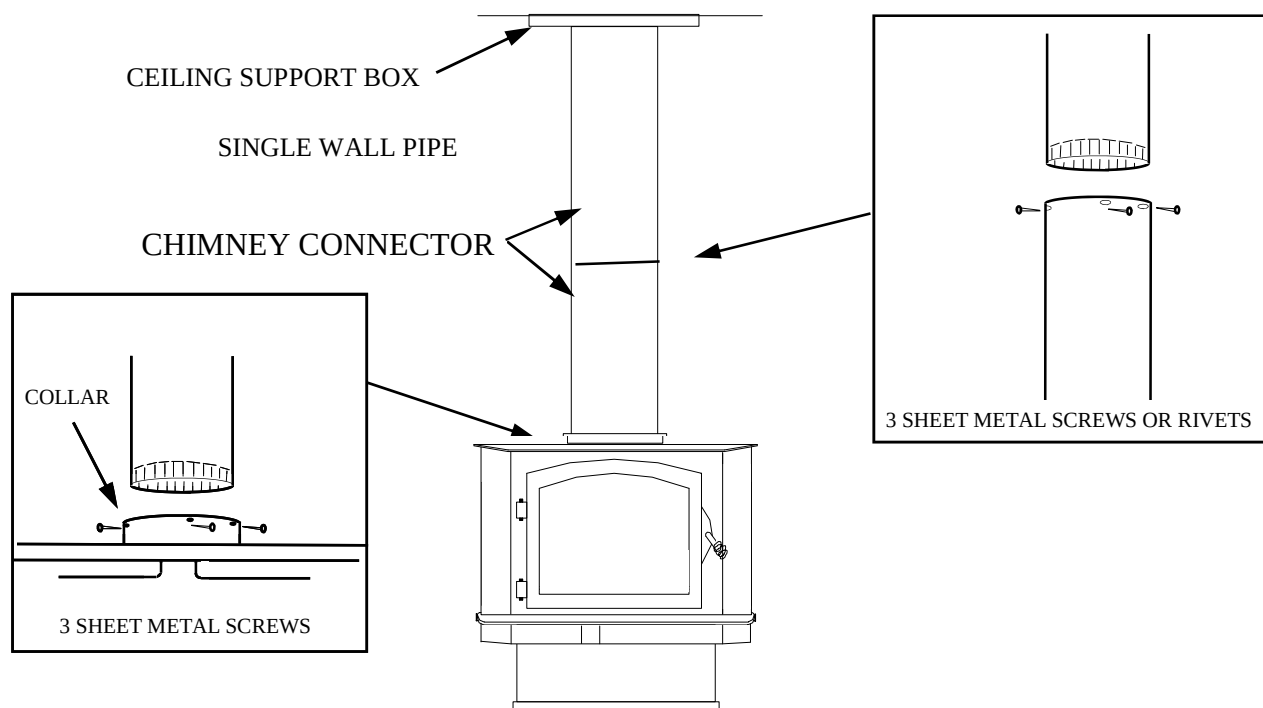

Figure 8
- (c) Secure each section to each other using at least three (3) sheet metal screws or rivets.
- (d) Use three (3) sheet metal screws to fasten pipe to connector collar on heater.
3. Now connect stove and ceiling support box using #24 ga. minimum blued or black steel connector pipe. **(DO NOT USE GALVANIZED PIPE.)** Connect each section so crimped end faces downward, and secure each section to each other using at least three (3) sheet metal screws or rivets. Next, install an optional New Buck Corporation chimney connector to flue exit of the heater or you may use "Ell" brackets to fasten the pipe to stove. (See Figure 8. Page 19).